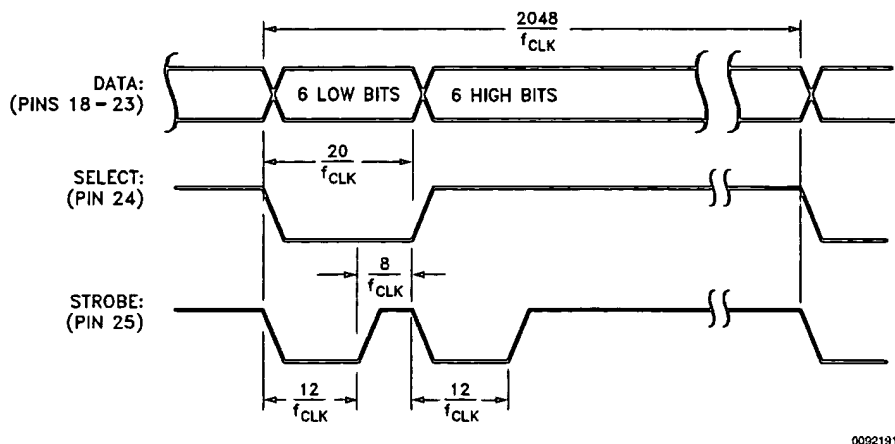

FIGURE 8. 12-Bit Multiplexed Output Timing
**Pin 17 (10), Host Interrupt (HI) Output:** This active-high signal alerts the host (via a host interrupt service routine) that an interrupt condition has occurred.
2. LM628 (12-bit output mode): Outputs two, multiplexed 6-bit words. The less-significant word is output first. The MSB is on Pin 18 and the LSB is on Pin 23. Pin 24 is used to demultiplex the words; Pin 24 is low for the less-significant word. The positive-going edge of the signal on Pin 25 is used to strobe the output data. Figure 8 shows the timing of the multiplexed signals.